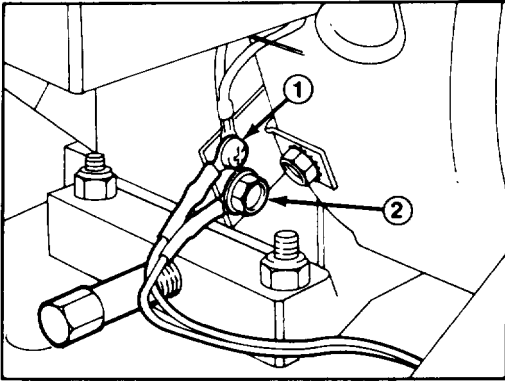

Figure 8
1. Remove phillips head screw and wire from engine bracket, install wire with smaller I.D. hole and reassemble to engine bracket (Fig. 8).
2. Insert flange head capscrew through large I.D. hole in remaining wire and install in lower hole in engine bracket (Fig. 8).